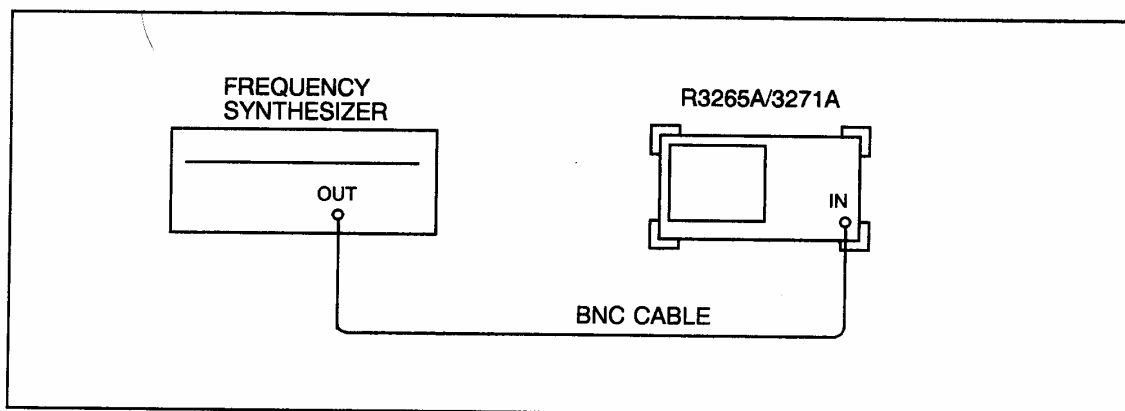

Figure 4-3 Residual FM Test Setup
(1) Connect the equipment as shown in Figure 4-3.
(2) Set the Frequency Synthesizer controls as follows: